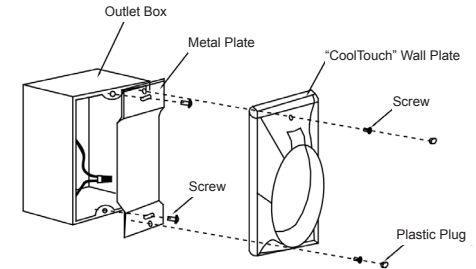

Fig. 26
**Step 2.** Install the metal plate and “CoolTouch” wall plate to the existing wall outlet box with 4 screws provided. Then place the two plastic plugs into the wall plate. (Fig. 26)